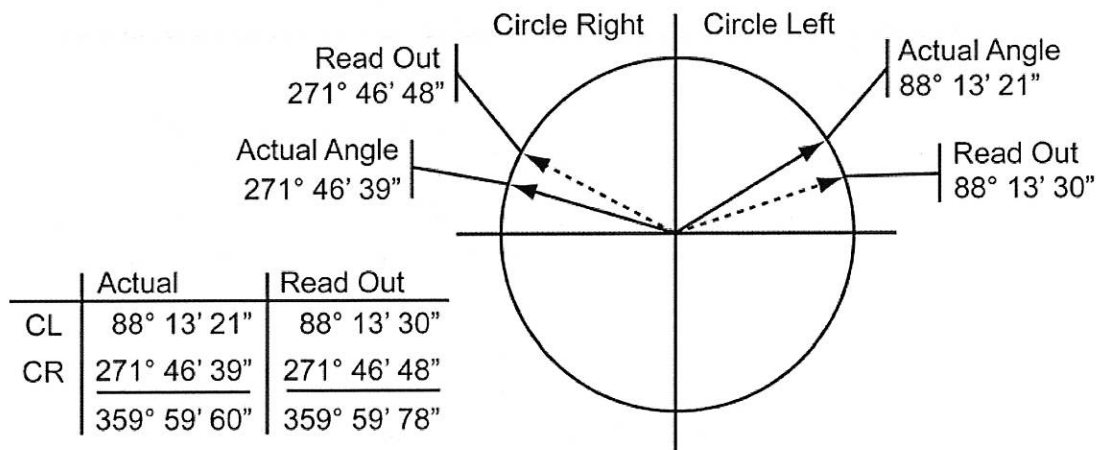

Figure 3. Illustration of Example 2 of Procedure Two
6. In this case, the elevation reading indicates an angle of $88^\circ 13' 30''$ while the telescope is actually pointing at $88^\circ 13' 21''$, an angle 9 seconds higher than indicated. (See Figure 3.)
Step 1. Utilizing figures 2 and 3 (figure 2 is CW & figure 3 is CCW), sketch out the location of the shaft relative to the dial indicator positions. Notice the small arcs with an arrow and labeled A and/or B in the figures give a magnitude and direction of indicator movement in each quadrant.